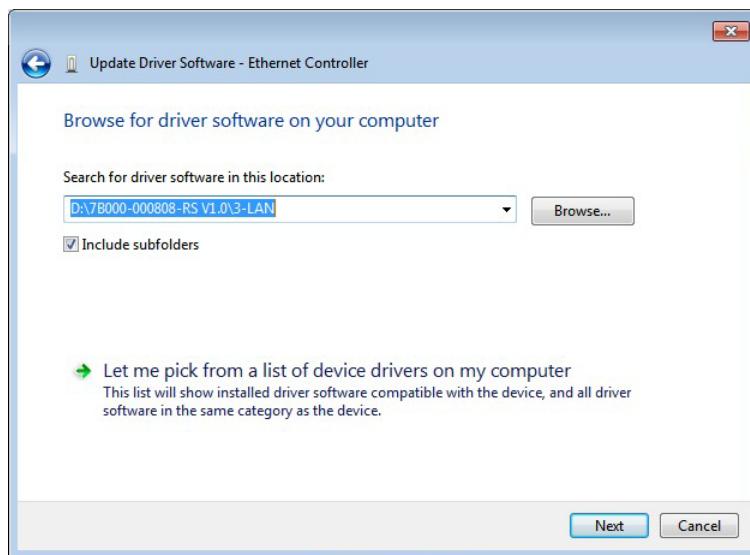

Figure 6-17: Locate Driver Files
Step 9: Click Browse to select “X:\3-LAN” directory in the **Locate File** window, where “X:\” is the system CD drive. (**Figure 6-17**).